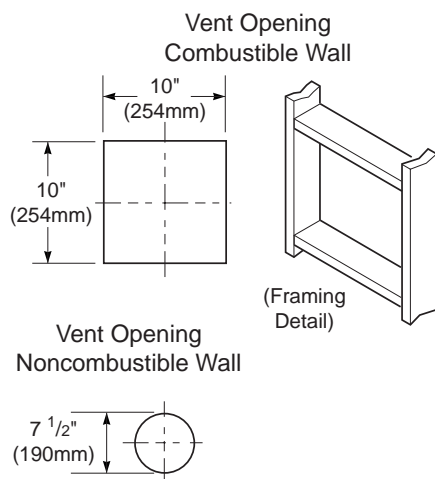
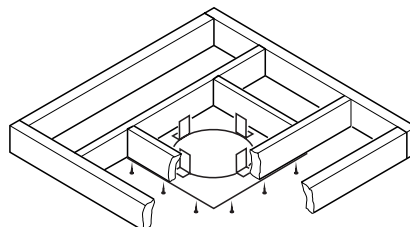

Figure 12 - Vent Opening Requirements
Figure 22 - Installing Firestop
3. Attach vent pipe assembly to the fireplace. Set fireplace in front of it's permanent location to insure minimum clearances. Mark the wall for a 10" square hole (for noncombustible material such as masonry block or concrete, a 7 1/2" diameter hole is acceptable). See Figure 12. The center of the hole should line up with the center-line of the horizontal rigid vent pipe. Cut a 10"x10" (254mm x 254mm) square hole through combustible exterior wall (7 1/2" [190mm] diameter hole if noncombustible). Frame as necessary (see Figure 12).
1. Cut a 10" square hole in the ceiling using the locating hole as a center point. The opening should be framed to 10"x10" (254mm x 254mm) inside dimensions, as shown in Figure 12 on page 9 using framing lumber the same size as the ceiling joists. If the area above the ceiling is an insulated ceiling or a room, nail firestop from the top side. This prevents loose insulation from falling into the required clearance space. Otherwise, install firestop below the framed hole. The firestop should be installed with no less than three nails per side (see Figure 22).
3. Cut a hole in the roof using the locating hole as a center point. (Cover any exposed open vent pipes before cutting hole in roof.) The 10"x10" hole must be measured on the horizontal; actual length may be larger depending on the pitch of the roof. There must be a 1" clearance from the vent pipe to combustible materials. Frame the opening as shown in Figure 12 on page 9.